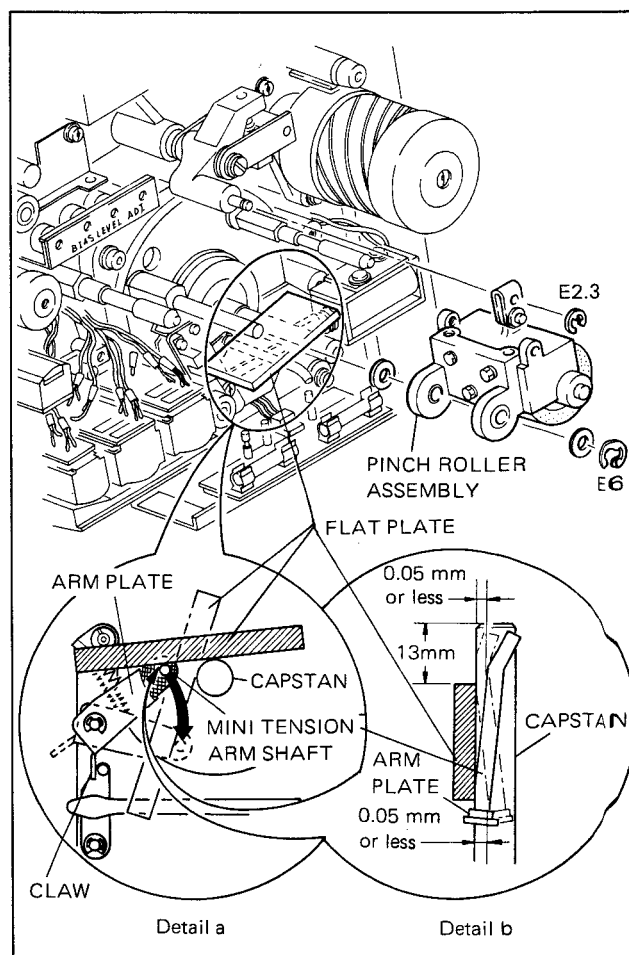

Fig. 3-46. Parallelism Confirmation for the Mini Tension Arm Shaft
- Remove the two E rings shown in Fig. 3-46, and remove the pinch roller assembly.
- Place the flat plate into the position shown by the hatching in detail a of Fig. 3-46, bring the flat plate into close contact with the capstan, and confirm that the clearance between the flat plate and the shaft of the tension arm is 0.05 mm or less as shown in detail b.
- Thread a tape, set the machine in REC mode, and confirm that there is a clearance of 0.3 to 0.8 mm between the mini tension arm and the tape. If necessary, adjust by bending the claw in detail a of Fig. 3-46.